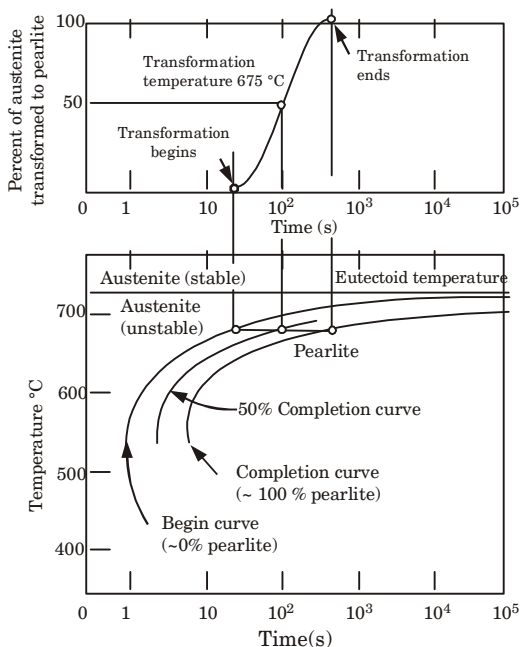

Fig. 4.9.1. TTT diagram.
5. In the (Fig. 4.9.1) transformation of austenite to pearlite is shown. The left most C-curve shows the starting of transformation of austenite into pearlite.